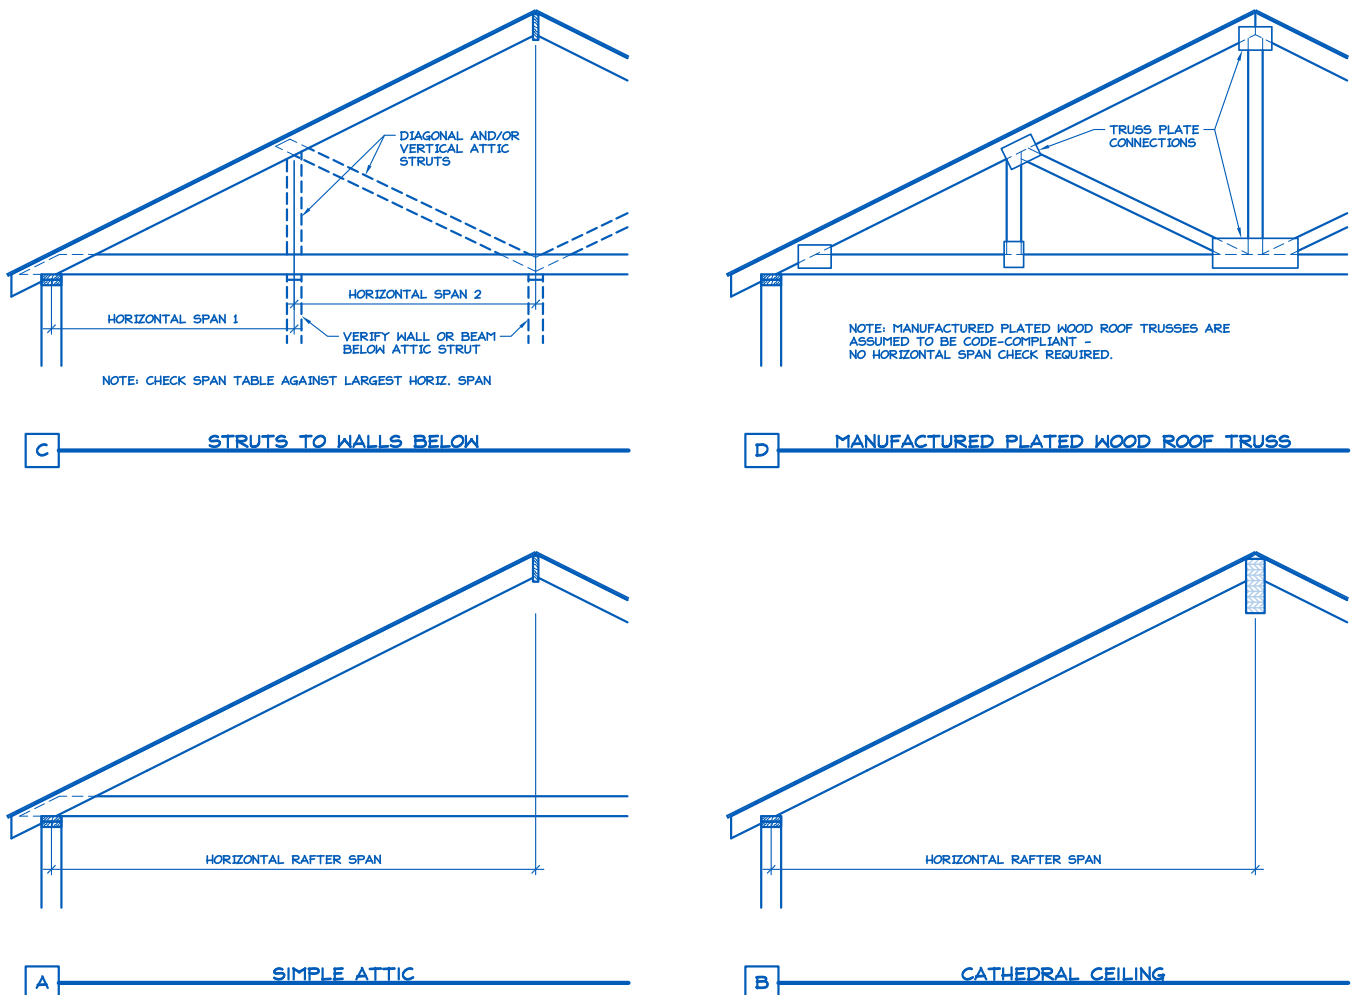

Figure 4. Definition of Rafter Horizontal Span.
- 5) Measured rafter horizontal span (see Figure 4): _____' - _____"ft-in
1. See Figure 4 for definition of roof rafter maximum horizontal span.